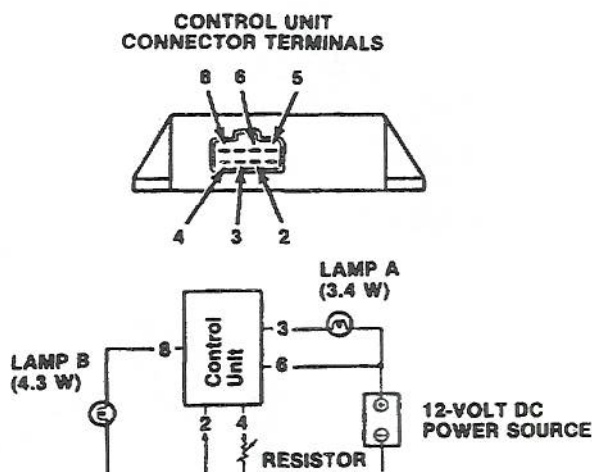

Figure 5-51. Control Unit Test Connectors
- (2) Connect ohmmeter leads to body of glow plug (1) and electrical terminal.
- (3) Glow plug resistance should be the value prescribed in table 6-1. A low reading indicates glow plug insulation is faulty. A high reading indicates an open heat coil. If either of these conditions exists, glow plug (1) is defective and must be replaced.
- (4) Visually inspect glow relay assembly (9) for damage.
- (5) Connect lamps, variable resistor and 12 vdc power source to glow relay assembly (9) terminals as shown in figure 5-51.
- (6) Vary resistance at terminal 2 according to table 5-5 and observe lamps.